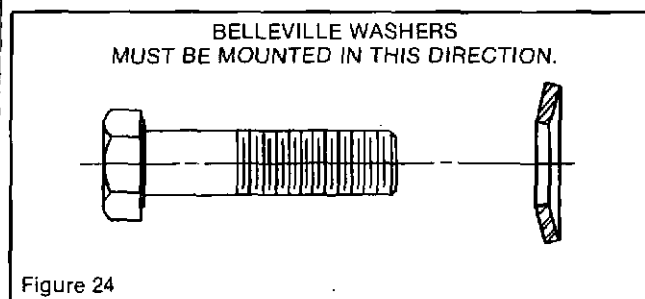
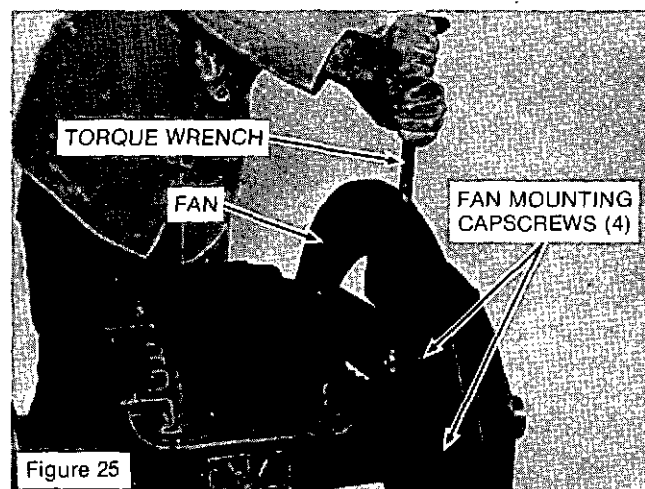

Figure 24
Figure 25
Allow the hub to cool for one hour. After the hub has cooled, tighten the setscrew in the hub to 50 ft-lbs (68 N.m) torque. Match the alignment marks on the fan and hub and mount the fan with the capscrews and belleville washers. (See Figure 24.) Torque the capscrews per Figure 49. (See Figure 25.)
- b. For single bearing generators, remove the hub according to the above drive hub removal instructions. Slide the fan off the shaft. Slide the new fan on the shaft making sure the fan mounting surface is toward the drive hub. Mount the hub according to the drive hub assembly instructions above. Mount the fan to the drive hub with the capscrews and belleville washers (see Figure 24). Torque the capscrews per Figure 49. (See Figure 25.)